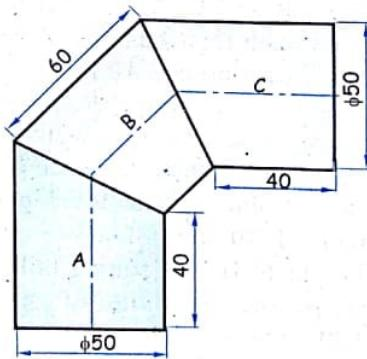

FIG. 12.74
20. The given figure 12.74 shows the cylindrical 90° elbow. Develop pieces 'A' or 'C' and 'B'.